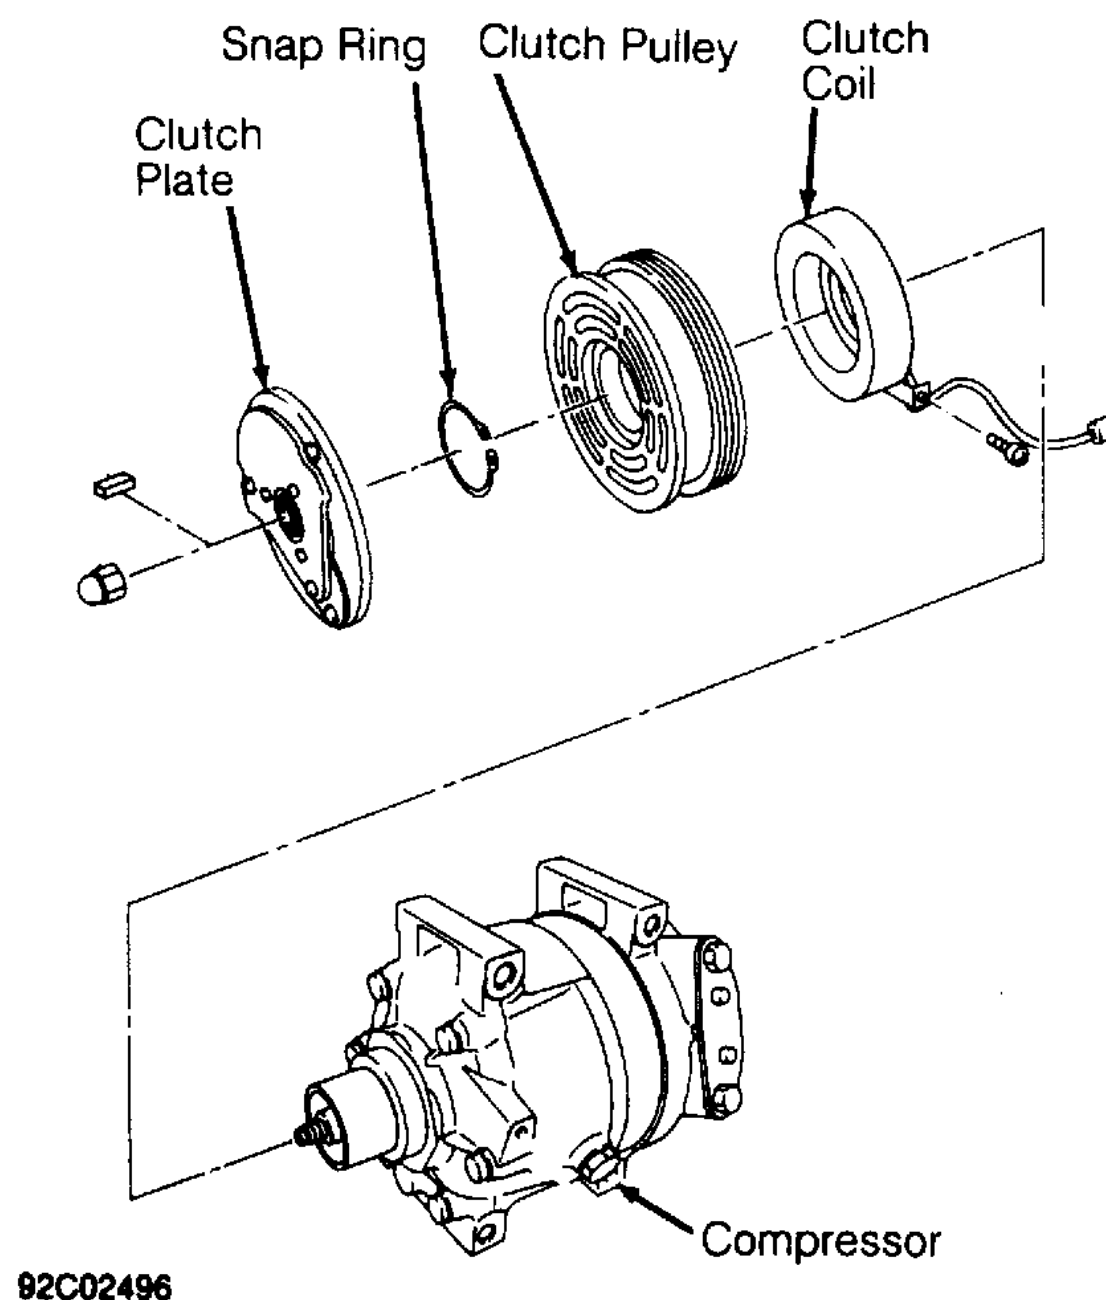

Fig. 3: Explode View of Compressor Clutch (Calsonic V5)
2. Use a universal gear puller to remove clutch pulley. See Fig. 3. Remove screw securing clutch coil ground lead. Use puller to remove clutch coil.